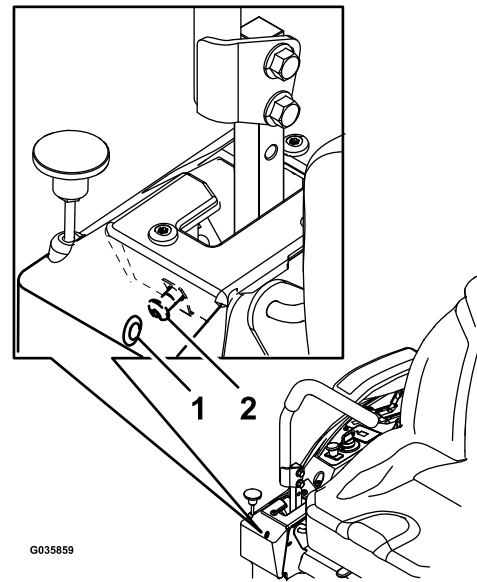

Figure 48
6. If the machine tracks to the right, insert a 3/16 inch hex wrench through the access hole in the right front cover panel and rotate the tracking screw clockwise or counterclockwise to adjust the travel of the lever (Figure 48).
7. If the machine tracks to the left, insert a 3/16 inch hex wrench through the access hole in the right front cover panel and rotate the tracking screw clockwise or counterclockwise to adjust the travel of the lever (Figure 48).